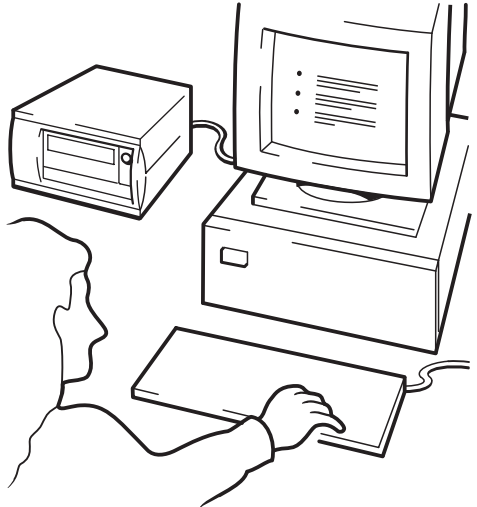

Figure 10d: using HP OBDR, step 4
- 3 Follow the on-screen instructions to set up the operating system (see Figure 10d). (These will vary depending upon the backup software.) Normally, you can accept the default response to all the prompts, for example, just press <Enter>.